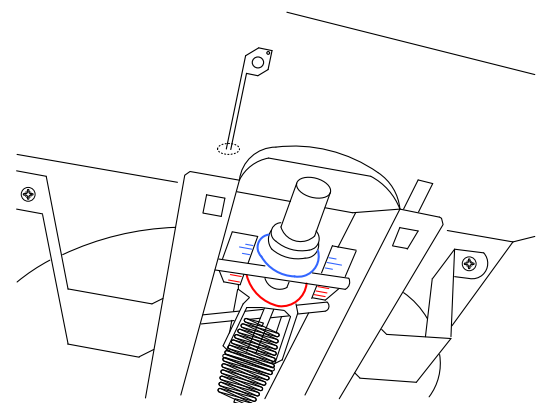

Fig. 6
12. Secure the adhesive backed button/light to the room side of the diffuser housing near the edge where it can be easily reached for the joining process to follow (see Fig. 6).